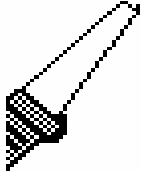

Figure 2. Fixed Extension
4.9. CONFIG EXTENSION - This section configures two extensions with minimum and maximum length, a minimum and maximum angle (OFFSET MIN/MAX) for the second extension (LENGTH 2), and whip extension or variable angled extension with angle sensor. Use Figures 2 through 5 to help identify your configuration. Press "OK" and proceed by entering extension lengths, angle, and calibrating whip extension angle. Configure the extensions that your crane will use and enter zero for unused portions of CONFIG EXTENSION. Recommendation: Set up the extension's minimum length as zero, so if this extension is removed you can change the length in the SELECT section of operation instead of entering calibration mode to remove extension.